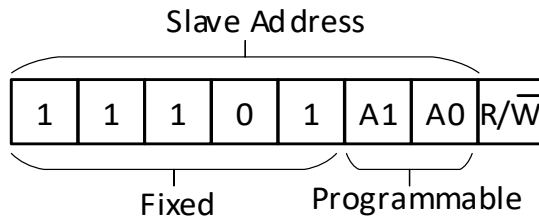

Figure 7-8. NCA9539-Q1 device address
Figure 7-8 shows the address byte of the NCA9539-Q1. The last bit of the target address defines the operation (read or write) to be performed. A HIGH (1) selects a read operation, while a LOW (0) selects a write operation.
Data is transmitted to the NCA9539-Q1 by sending the device address and setting the least significant bit to a logic 0 (see Figure 7-8). The command byte is sent after the address and determines which register will receive the data following the command byte.
In order to read data from the NCA9539-Q1, the bus master must first send the NCA9539-Q1 address with the least significant bit set to a logic 0 (see Figure 7-8). The command byte is sent after the address and determines which register will be accessed. After a restart, the device address is sent again, but this time the least significant bit is set to a logic 1. Data from the register defined by the command byte will then be sent by the NCA9539-Q1 (see Figure 7-12, Figure 7-13 and Figure 7-14). Data is clocked into the register on the rising edge of the acknowledge clock pulse. After the first byte is read, additional bytes may be read but the data will now reflect the information in the other register in the pair. For example, if Input Port 1 is read, then the next byte read would be Input Port 0. There is no limitation on the number of data bytes received in one read transmission, but the final byte received, the bus master must not acknowledge the data.